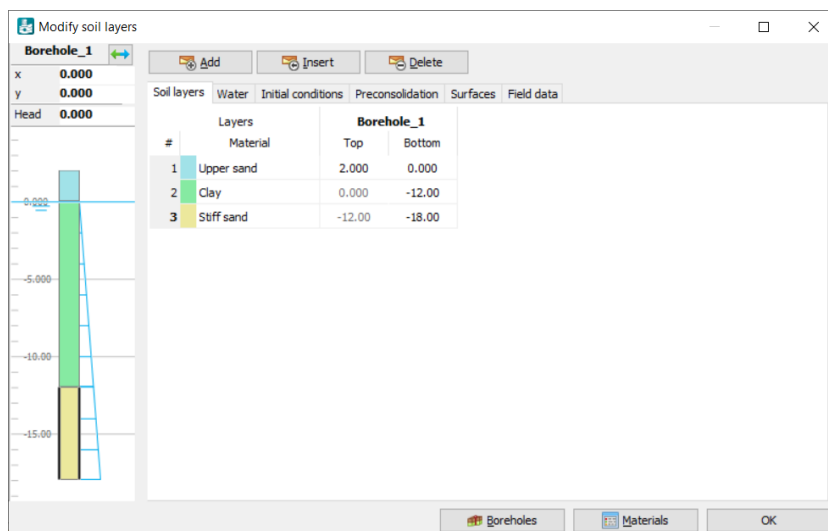

Figure 60: Soil layer distribution
2. Assign the material data sets to the corresponding soil layers (Figure 60 (on page 86)) and close the **Modify soil layers** window. The concrete data set will be assigned later.